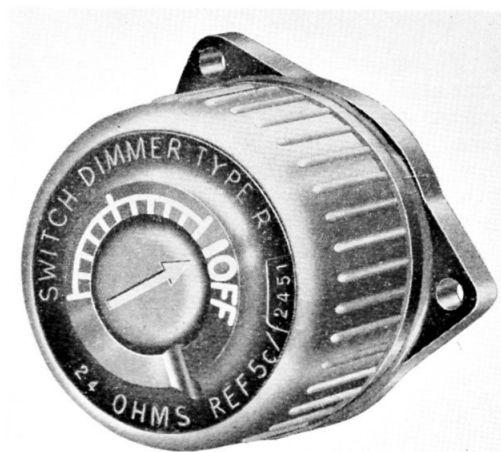
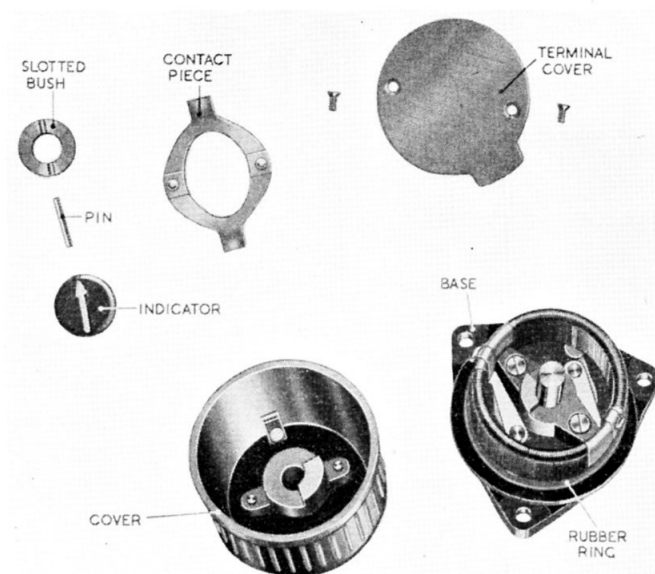

Fig. 1. Dimmer switch, Type R
Fig. 2. Dismantled components
3. The switch is shown in fig. 1, and its dismantled components in fig. 2. The resistance consists of two half-windings on a ceramic former. The phosphor-bronze double-contact piece is spigoted to the plastic switch cover, so that the resistance inserted in the lamp circuit is controlled by the rotation of the cover itself. The cover rotates about the central brass spindle moulded into the base, secured by a pin running through a slotted bush and a hole in the spindle.